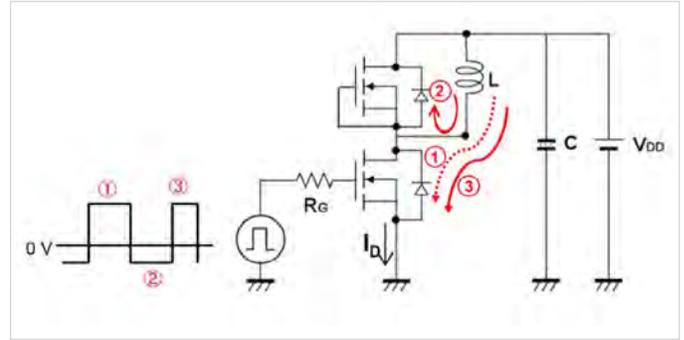
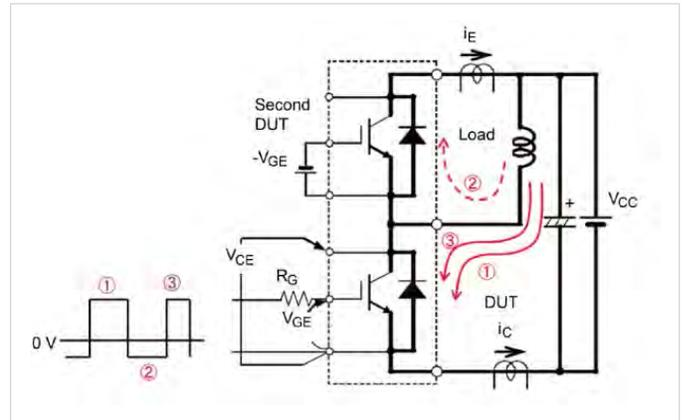
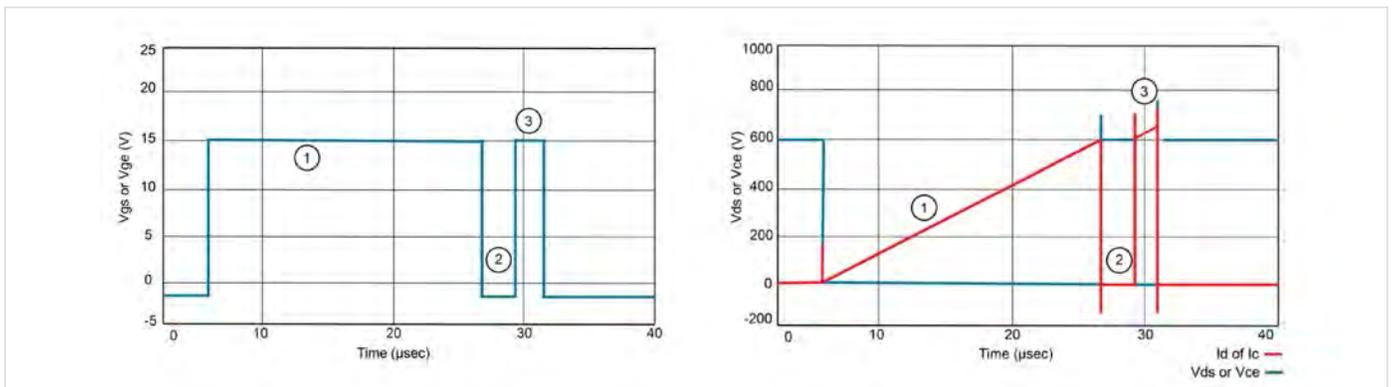
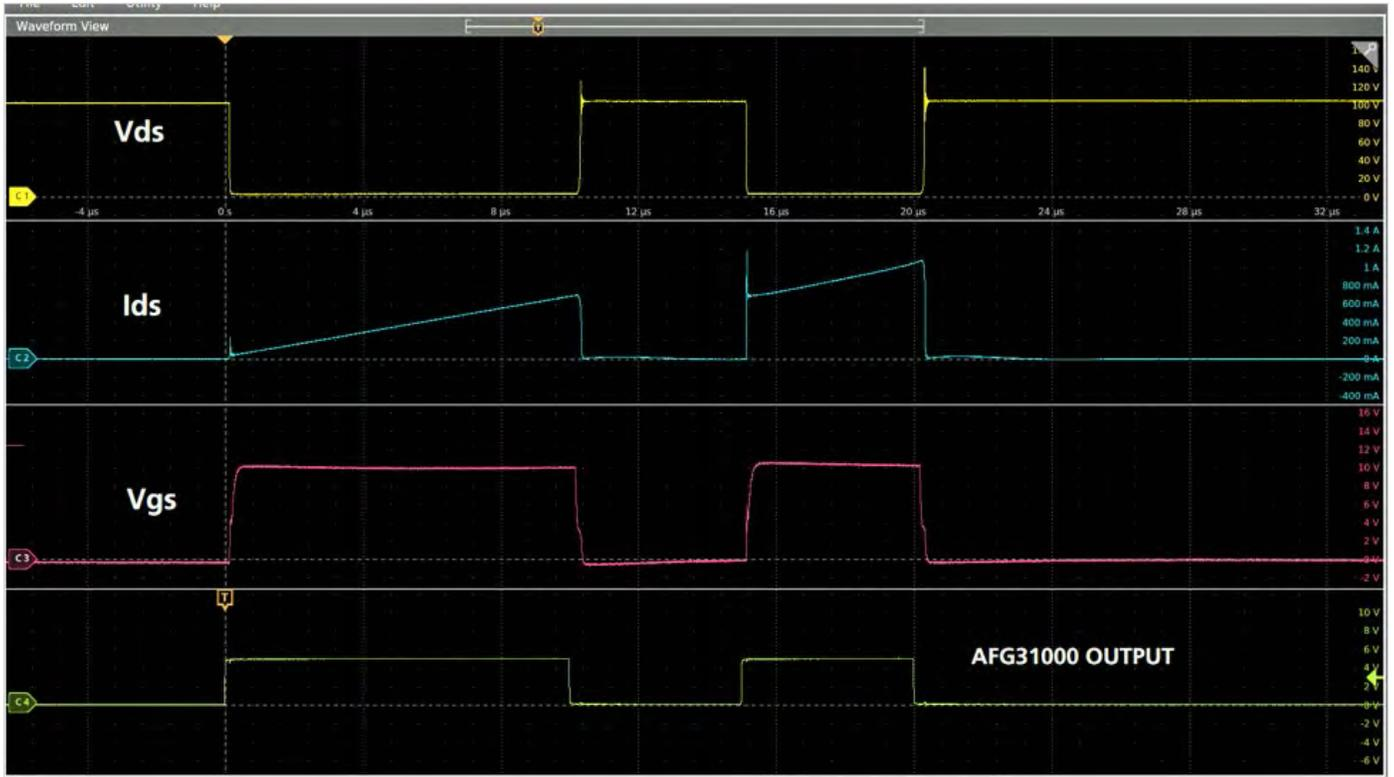

Figure 6: Current Flow with MOSFETs as DUTs.
Figure 7: Current Flow using IGBTs as DUTs.
Figure 8: Typical Waveforms of the Double Pulse Test.
Figure 16: Double Pulse Test waveforms.
**Figure 6** shows the current flow within the different stages of the test for a Double Pulse Test with MOSFETs. The same current flow would apply when using IGBTs as shown in **Figure 7**.
**Figure 8** shows typical measurements taken on the low side MOSFET or IGBT. Here are the different stages of the Double Pulse Test (These stages refer to **Figures 6, 7 and 8**)
- The first step, represented by turn-on pulse number 1, is the initial adjusted pulse width. This establishes current in the inductor. This pulse is adjusted to get to the desired test current ( $I_d$ ) as shown in **Figure 8**.
- The second step (2) is to turn-off the first pulse, which creates current in the free-wheeling diode. The turn-off period is short to keep the load current as close as possible to a constant value through the inductor. **Figure 8** shows  $I_d$  on the low side MOSFET that goes to zero in step 2; however, the current is flowing through the inductor and the high side diode. This could be seen in **Figures 6 and 7**, as the current flows through the diode of the high side MOSFET (the MOSFET that doesn't get turned on).
- The third step (3) is represented by the second turn-on pulse. The pulse width is shorter than the first pulse so that the device is not overheated. The second pulse needs to be long enough for the measurements to be taken. The current overshoot seen in **Figure 8** is due to the reverse recovery of the free-wheeling diode from the high side MOSFET/IGBT.
The SMU instrument is set to source 100 V into HV. The 5 Series MSO is then set to take a single trigger measurement. Now the AFG31000 is triggered to output pulses. The resulting waveforms are then captured on the scope as shown in **Figure 16**.
Notice the waveforms in **Figure 16** resemble the ones shown in **Figure 8**. Again, the current overshoot seen on  $I_{ds}$  is due to reverse recovery of the free-wheeling diode from the high side MOSFET/IGBT. This spike is intrinsic to the device being used and will contribute to the losses.